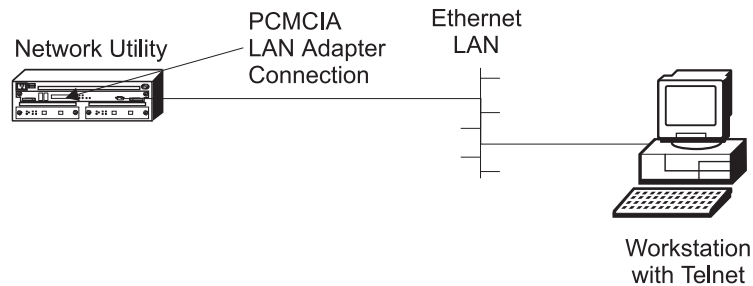

Figure 5. LAN Connection through the PCMCIA LAN Adapter
- Local cable from a Network Utility PCMCIA LAN adapter (an IBM EtherJet PC card) to a workstation using a local Ethernet hub. Figure 5 on page 17 shows a version of this configuration.